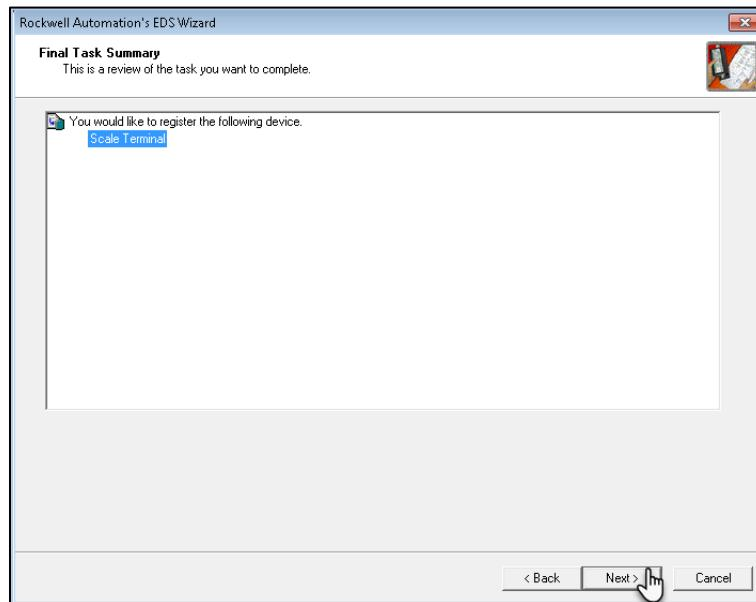

Figure 15: EDS File Device Registration Screen
- Click on **Next** again to register your device as per **Figure 15** below.